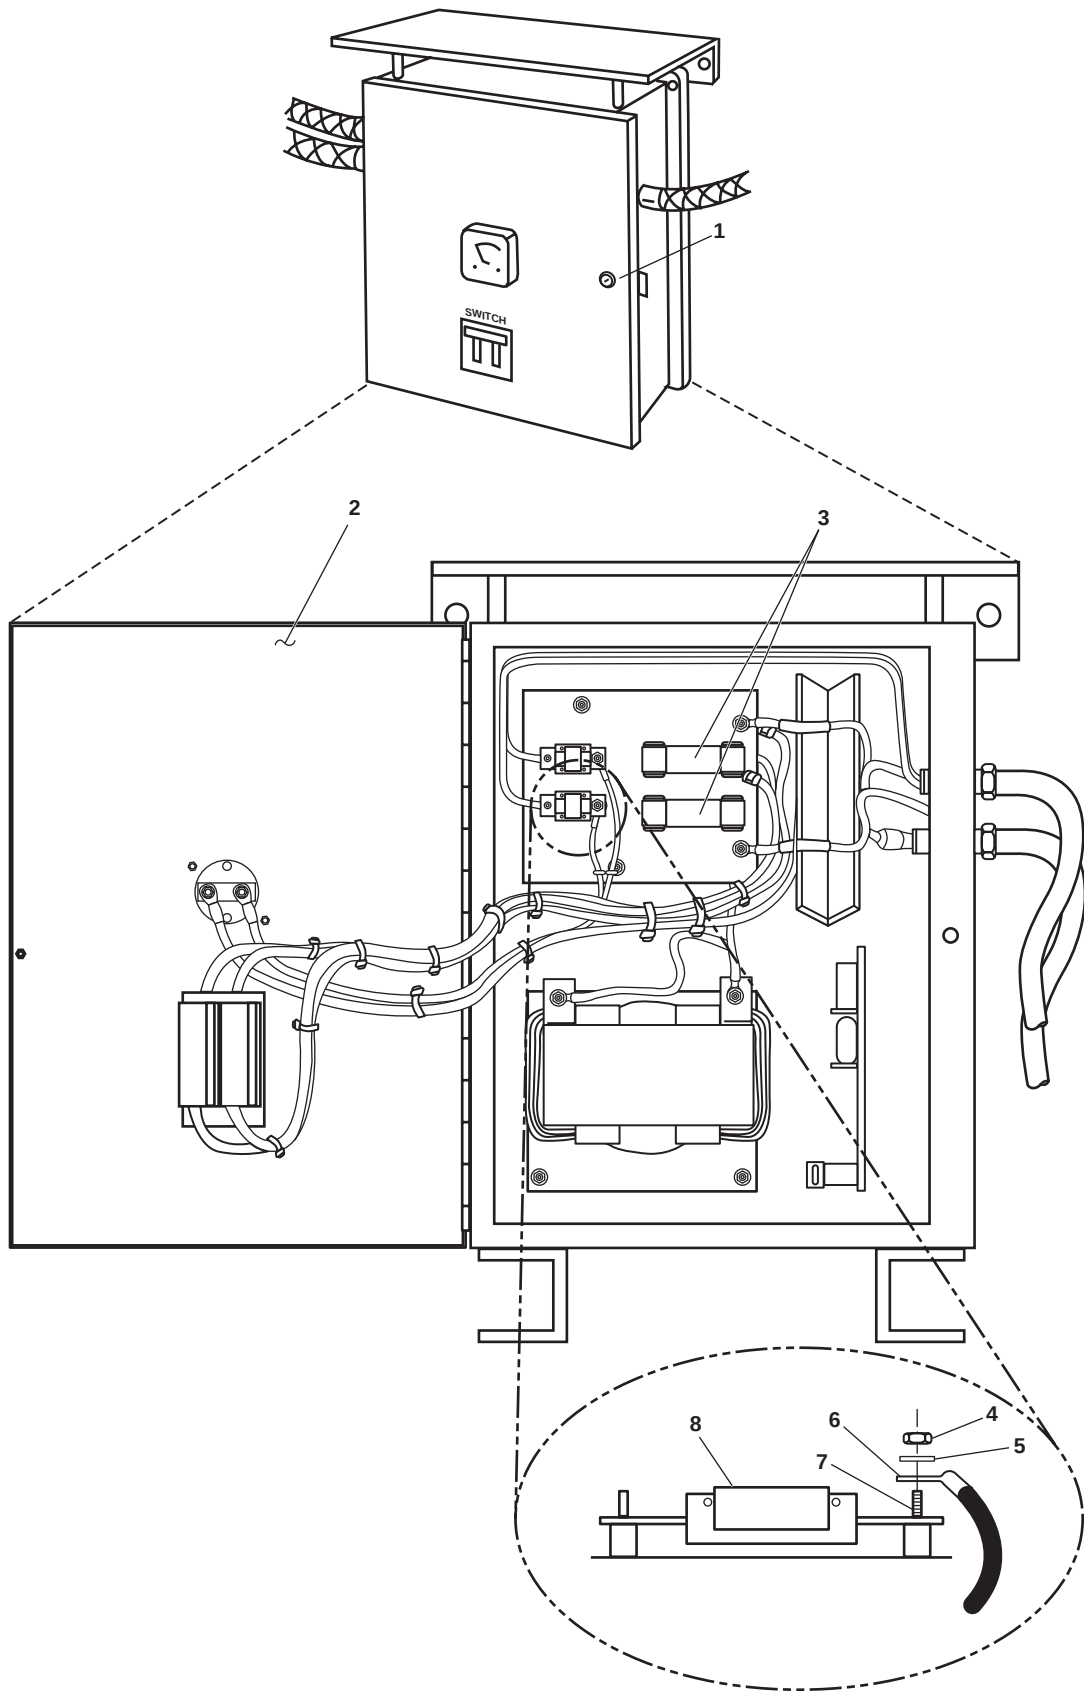

Figure 2. Battery Charger
1. Loosen the captive screw (figure 2, item 1) and OPEN the battery charger door (figure 2, item 2).
2. Use a multimeter to check for voltage at the ac fuses (figure 2, item 3). If voltage is present, ensure that the proper circuit breakers are set to OFF, locked out, and tagged out (FM 55-502). If no voltage is present, continue with the procedure.
3. Remove the ac fuses (figure 2, item 3) using a fuse puller.
1. Install the ac fuses (figure 2, item 3) using a fuse puller.
2. CLOSE the battery charger door (figure 2, item 2) and secure it with the captive screw (figure 2, item 1).
3. Remove the nut (figure 2, item 4) and flat washer (figure 2, item 5), and remove the wire terminal (figure 2, item 6) from the post (figure 2, item 7).
4. Remove the dc fuse (figure 2, item 8) from the post (figure 2, item 7).
1. Install the dc fuse (figure 2, item 8) and the wire terminal (figure 2, item 6) on the post (figure 2, item 7) and secure them with the nut (figure 2, item 4) and flat washer (figure 2, item 5).